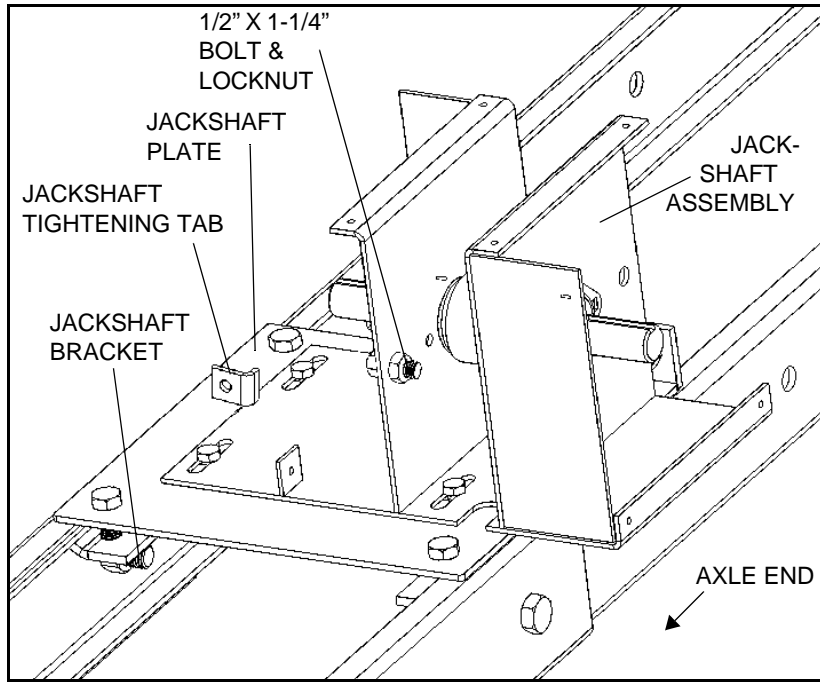

Figure 3.19 Jackshaft Installation
1. Install the jackshaft assembly onto the jackshaft plate with four 3/8" x 1" carriage bolts and locknuts (Figure 3.19).
- ➔ 2. If using a gas engine drive, install 1/2" x 1-1/4" bolt onto jackshaft assembly before installing pulley (Figure 3.19).